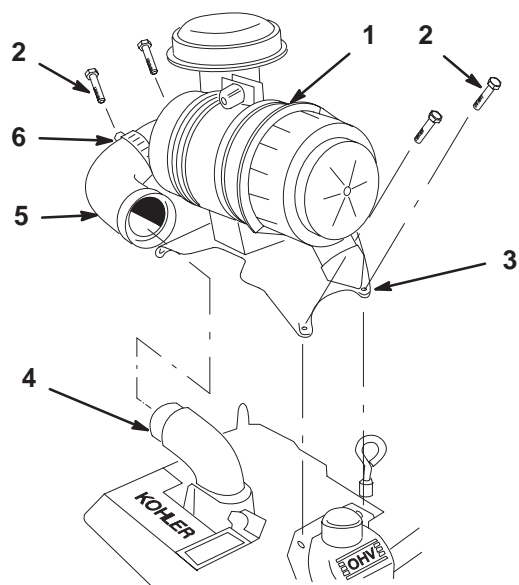

Figure 7
1. Remove air cleaner from crate. Keep air cleaner and bracket together. (Fig. 7).
2. Remove the top two valve cover mounting screws from both valve covers (Fig. 7).
3. Place air cleaner onto engine and align holes in air cleaner bracket with holes in valve covers (Fig. 7).
4. Install valve cover screws into air cleaner bracket and valve covers (Fig. 7).
5. Remove plastic plugs from air intake elbow on engine and air cleaner hose (Fig. 7).
6. Install hose to air intake elbow on engine and air cleaner. Tighten hose clamps to secure the hose connections (Fig. 7).